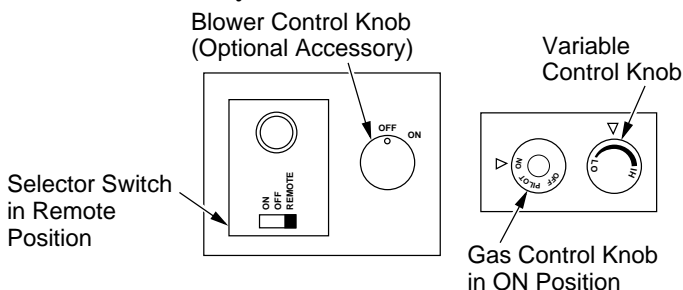

Figure 51 - Setting the Selector Switch, Gas Control Knob, and Variable Control Knob for Remote Operation
1. After lighting, let pilot flame burn for about one minute. Turn control knob to ON position. Adjust flame adjustment knob anywhere between HI and LO. Slide the selector switch to the REMOTE position (see Figure 51, page 25). **Note:** The burner may light if hand-held remote was on when selector switch was last turned off. You can now turn the burner on and off with the hand-held remote control unit.